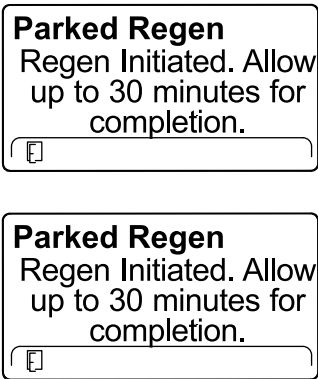

Figure 48
6. The InfoCenter displays the time to complete message (Figure 48).